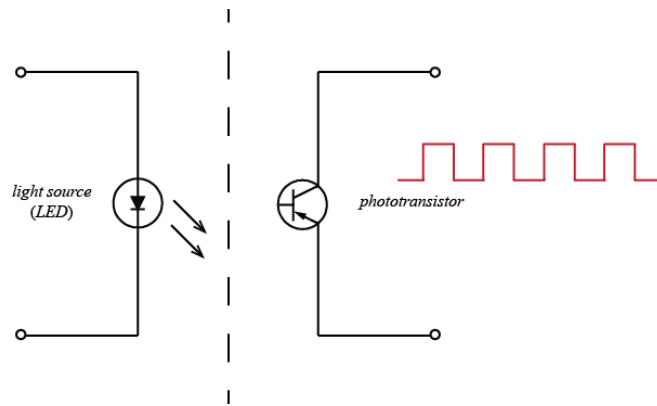
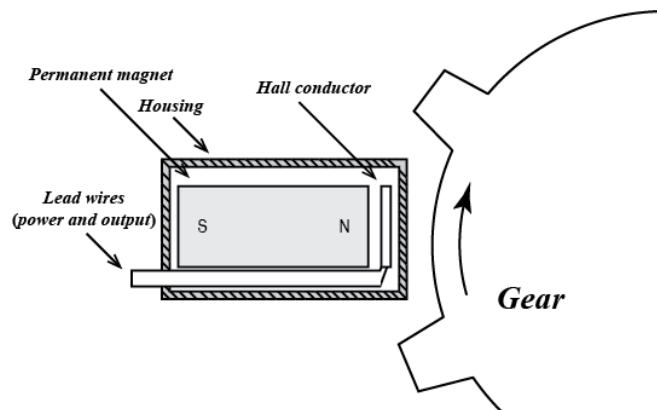

FIGURE 5 – Optical encoder scheme
FIGURE 7 – Hall effect encoder
We will also employ the Arduino board for sensing the position/speed of the motor. There are different means for achieving this with one of the most popular being the optical encoder (see figure 5). An optical encoder consists of an emitter (a light source, like an LED) and a detector (a phototransistor). Within an encoder there is a piece of material that alternately blocks and passes light as the material is passed between the emitter/detector pair. When the phototransistor detects the light its output goes high, and when it doesn't detect light its output goes low. By counting these pulses, the sensor indicates the displacement of the material between the emitter and detector. Furthermore, by timing the frequency of these pulses, the sensor can be used to indicate speed. By employing two emitter/detector pairs that are slightly offset, the optical encoder can also be used to determine the direction of motion. In the following rotary example shown in figure (6), when the disk is rotating counterclockwise the disk will encounter Pair A first and Pair B second, thereby causing channel A to go low before channel B goes low. When the disk is rotating clockwise, then channel B will go low first. This type of configuration is typical of what is referred to as quadrature. Another commonly employed transducer is a Hall-effect sensor (figure 7). A Hall-effect sensor is able to detect a magnetic field. By detecting the passing of gear teeth or a magnet, the Hall-effect sensor can generate a pulse-train output similar to that produced by an optical encoder. Furthermore, employing offset Hall-effect sensors